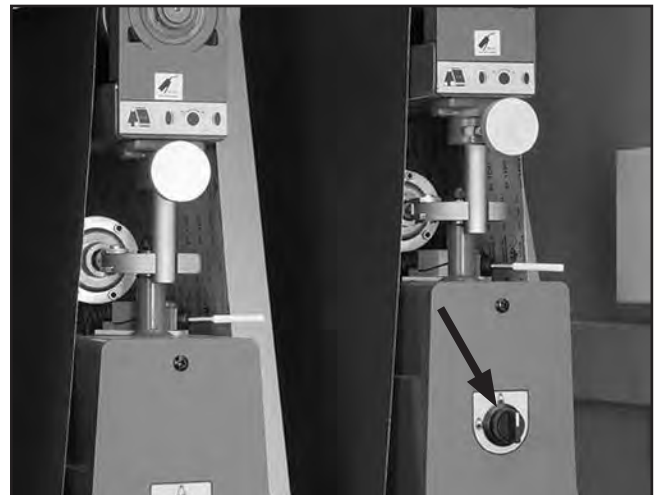

Figure 32. Belt tension knob.
3. With the sanding belt tensioned (**Figure 32**), move the sanding rollers by hand and manually raise the table until you hear the sandpaper just contact the surface of the wood. DO NOT continue to raise the table beyond that point.